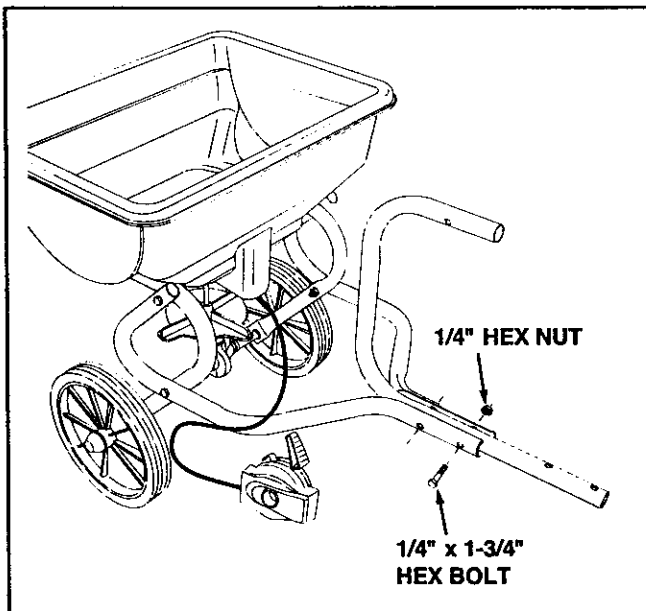

FIGURE 2
3. Assemble the Hitch Control Tube between the Hitch Tubes using two 1/4" x 1-3/4" hex bolts and 1/4" hex nuts. Tighten all bolts and nuts. See figure 2.